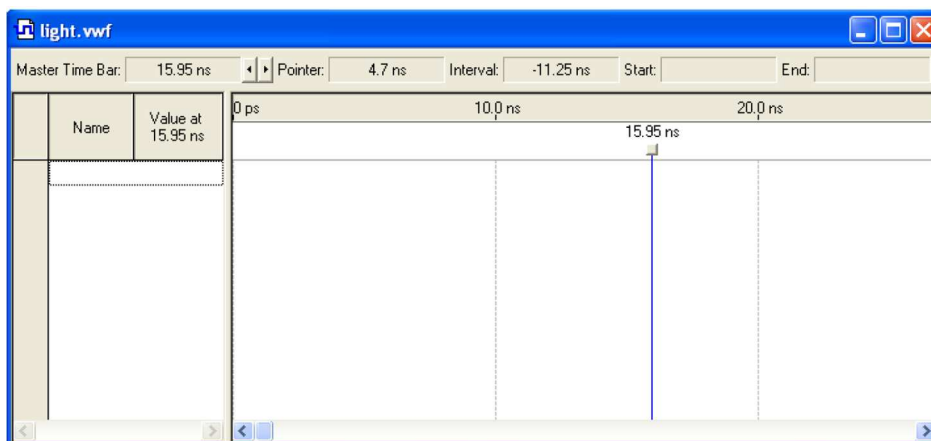
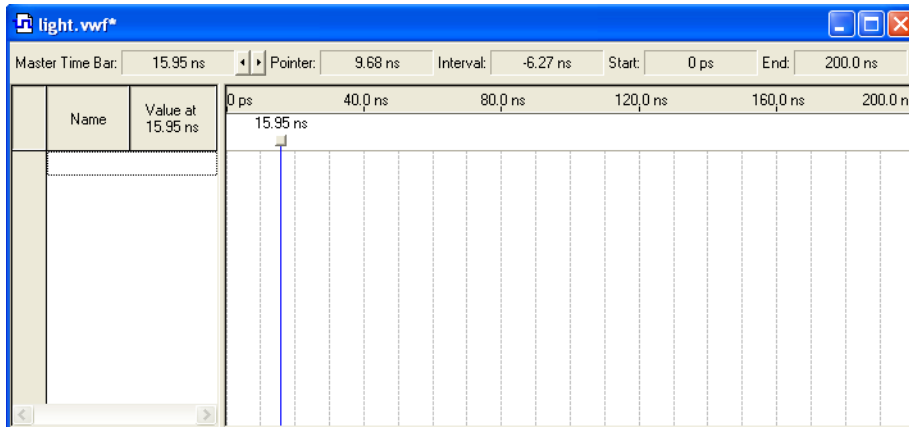

Figure 31. The Waveform Editor window.
Figure 32. The augmented Waveform Editor window.
2. The Waveform Editor window is depicted in Figure 31. Save the file under the name *light.vwf*; note that this changes the name in the displayed window. Set the desired simulation to run from 0 to 200 ns by selecting Edit > End Time and entering 200 ns in the dialog box that pops up. Selecting View > Fit in Window displays the entire simulation range of 0 to 200 ns in the window, as shown in Figure 32. You may wish to resize the window to its maximum size.